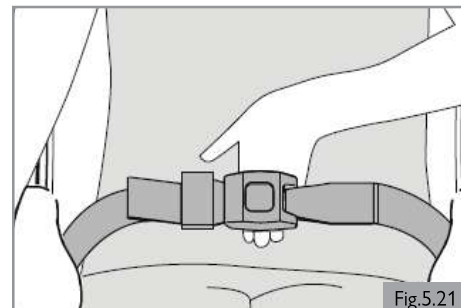

Fig.5.21
1. Adjust the lap belt to suit, leaving no more than a hand's width gap for comfort and safety. (Fig. 5.21)